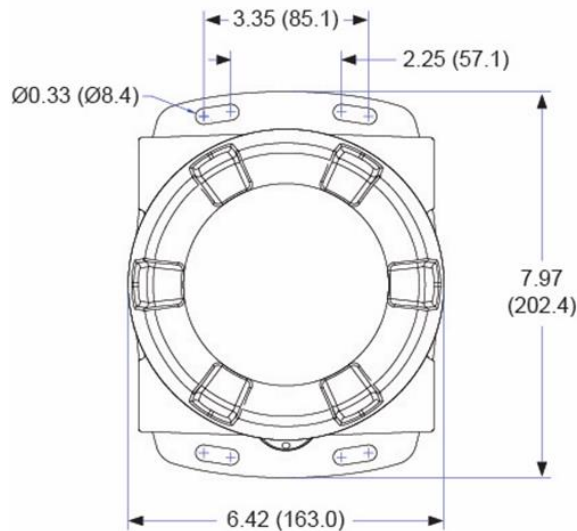
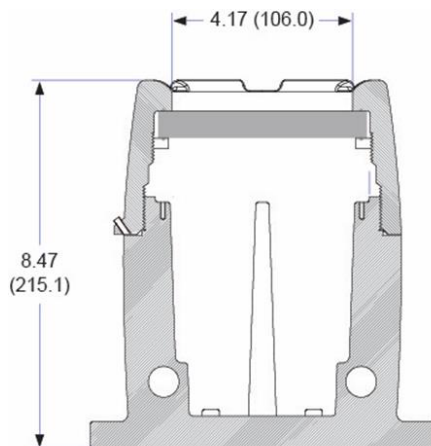

Figure 1. Enclosure Dimensions – Front View
Figure 2. Enclosure Dimensions – Side Cross Section View
The ProtEX-MAX has two slotted mounting flanges that may be used for pipe mounting or wall mounting. Refer to *Figure 1* and *Figure 2* below.
- Prepare a section of wall approximately 7" x 8.5" (178 mm x 216 mm) for meter mounting by marking with a pencil the mounting holes (shown in *Figure 1*) on the wall.
- Select the appropriate mounting screws for the mounting surface to be used. The mounting holes diameter is shown on *Figure 1*.